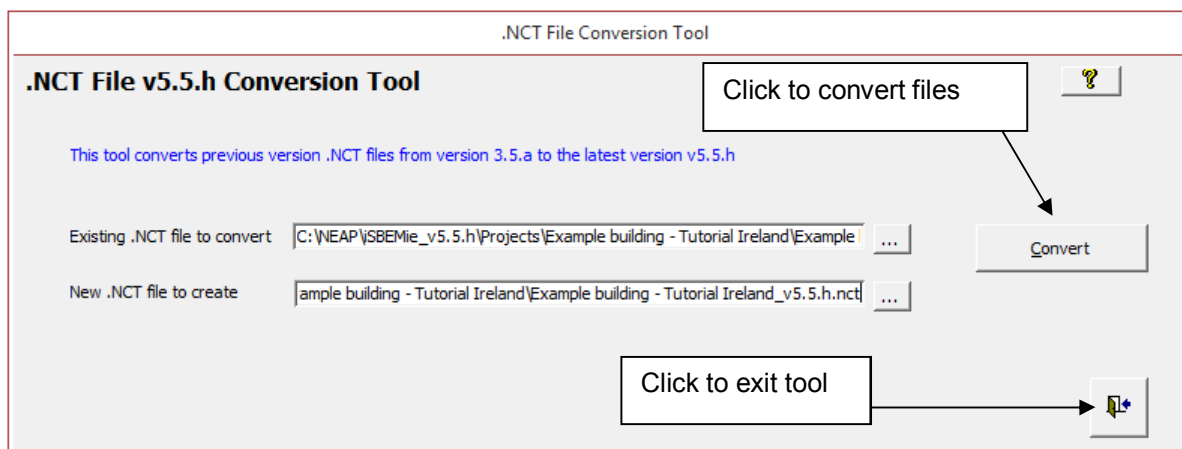
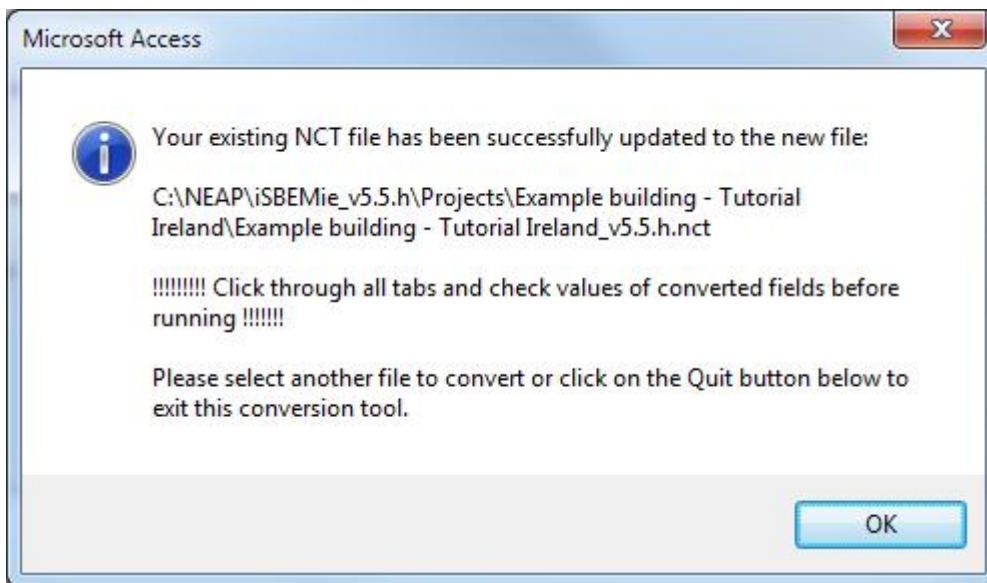

Figure 20: The Convert and Quit buttons
Figure 21: Message which appears after conversion
4. **Convert the file** – When both of the fields are filled, the ‘Convert’ button becomes active (see Figure 20). Clicking on this button converts the files and produces the message shown in Figure 21. Click on ‘OK’. The new file will be saved to the same folder as the original file by default, unless you specify otherwise.
5. **Close the tool** – Click on the ‘Exit’ button (see Figure 20).